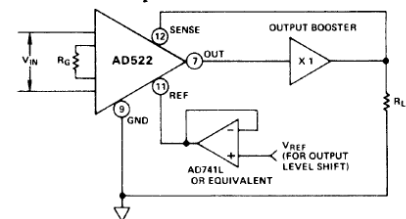

Figure 7. Output Current Booster and Buffered Output Level Shifter
**Sense Output:** A sense output is provided to enable remote load sensing or use of an output current booster. Figure 7 illustrates these applications. Being "inside the loop", booster drift errors are minimized. When not used, the sense output should be tied to the output.
**Reference Output:** The reference terminal is provided to permit the user to offset or "level shift" the output level to a datum compatible with his load. It must be remembered that the total output swing is  $\pm 10$  volts to be shared between signal and reference offset. Furthermore, any reference source resistance will unbalance the CMR trim by the ratio  $10k/R_{ref}$ . For example, if the reference source impedance is  $1\Omega$ , CMR will be reduced to 80dB ( $10k\Omega/1\Omega \approx 10,000 = 80\text{dB}$ ). A buffer amplifier can be used to eliminate this error, as shown in Figure 7, but the drift of the buffer will add to output offset drift. When not used, the reference terminal should be grounded.